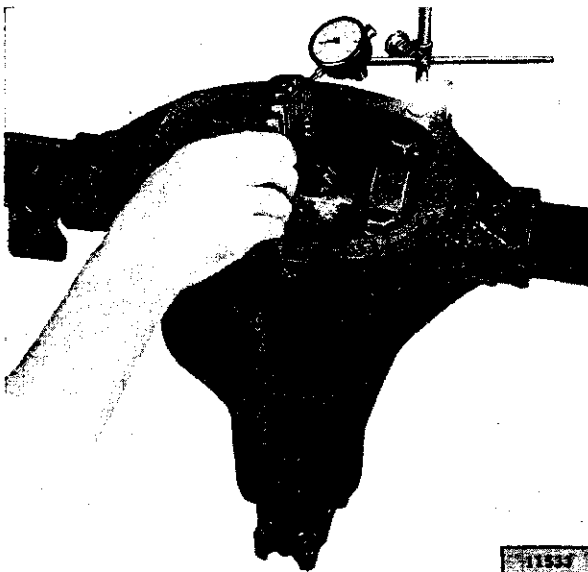

FIG. N-34—CHECKING RING GEAR BACKLASH
- l. Install dial indicator to check ring gear backlash (Fig. N-34). Check backlash at two points. Backlash must be held between .005" to .010" [0,127 a 0,254 mm.]. If backlash does not fall within specifications, shims should be interchanged be-